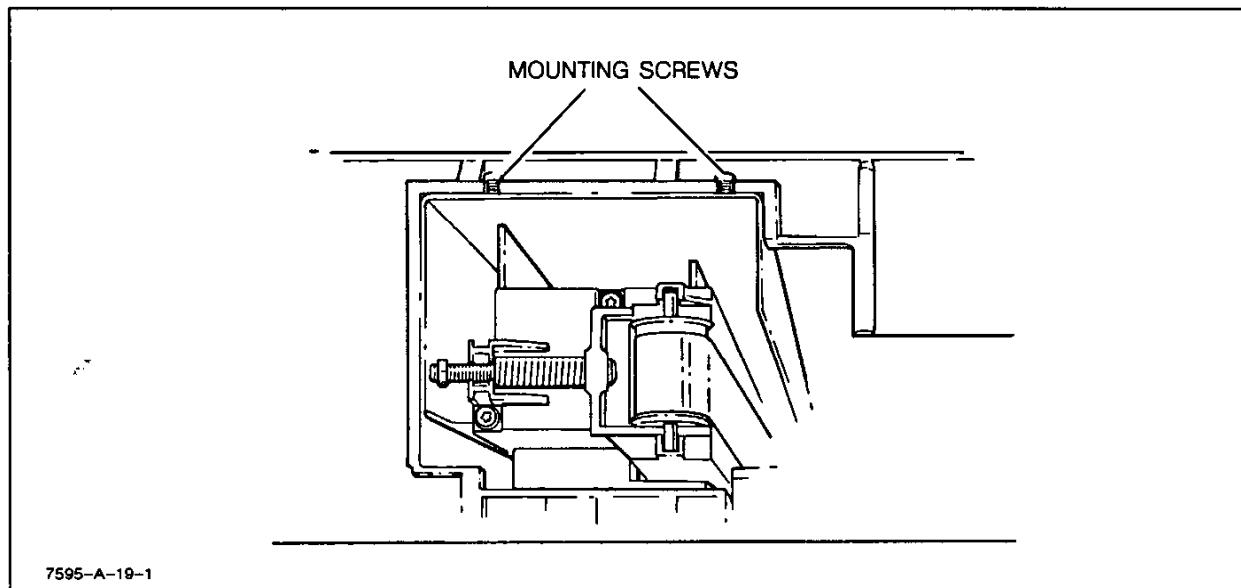

Figure 6-3. Window Removal
- Loosen the two Y-arm cover mounting screws (Torx #15) at each end of the cover. See Figure 6-3.